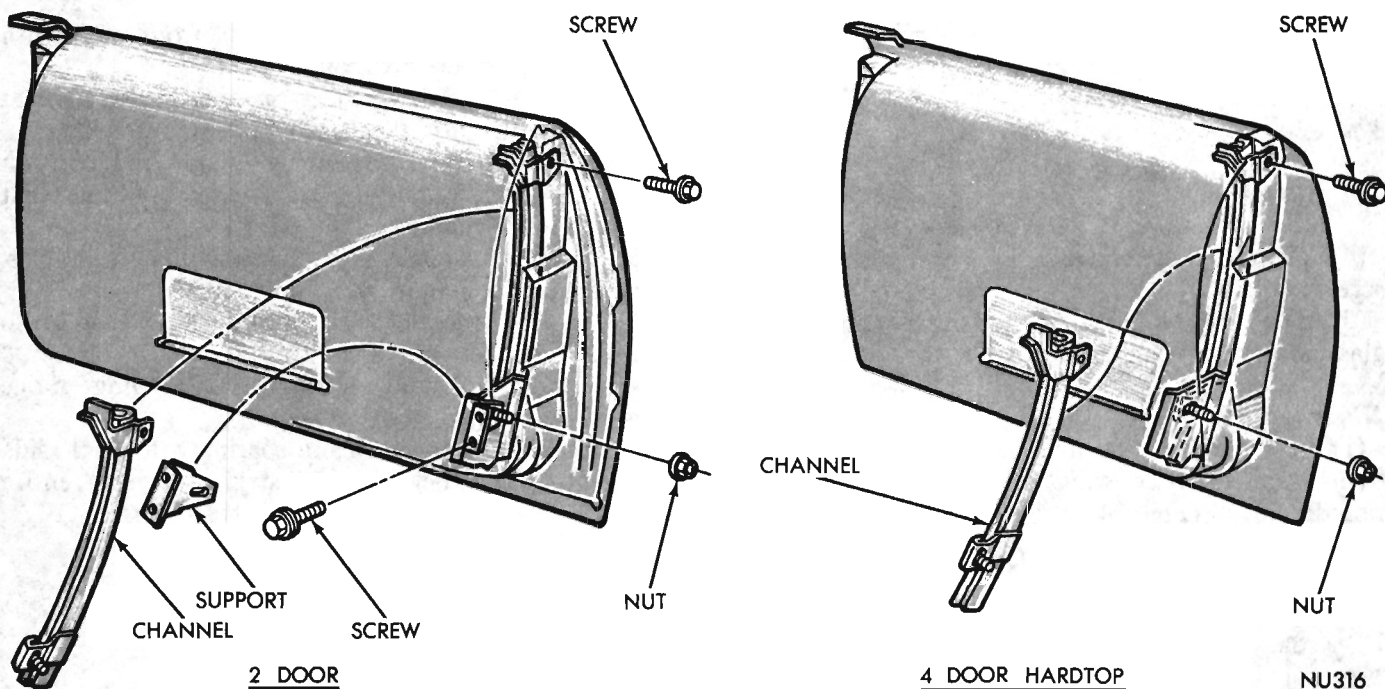

Fig. 15 - Glass Rear Channel
- (1) Remove up-stop at rear channel.
- (2) Remove the door glass and vent wing assembly.
- (3) Remove channel upper support retaining screw at door lock face, inner panel support and lower support retaining nut (Fig. 15) at door.
- (4) Remove channel assembly through large access hole.
- (1) Position rear channel assembly into door through large access hole.
- (2) Align upper support to hole in door lock face and install screw loosely (Fig. 15).
- (3) Insert channel lower stud into slot of support assembly and secure with nut.
- (4) Tighten upper support screw.
- (5) Install door glass.
- (6) Install up-stop at rear channel.